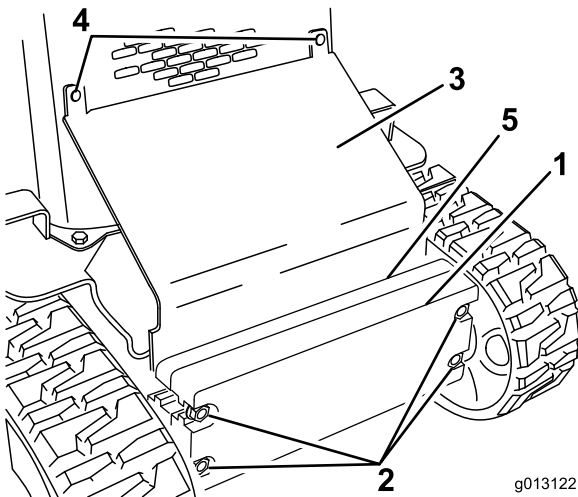

Figure 26
2. Loosen the bolts securing the weights (Figure 26).
3. Remove the carriage bolts and nuts securing the sloped plate (Figure 26).
10. Slide the sloped plate between the frame and the weights and secure it to the front screen grill using the carriage bolts and nuts removed previously (Figure 26).
11. Tighten the bolts securing the front weights (Figure 26).